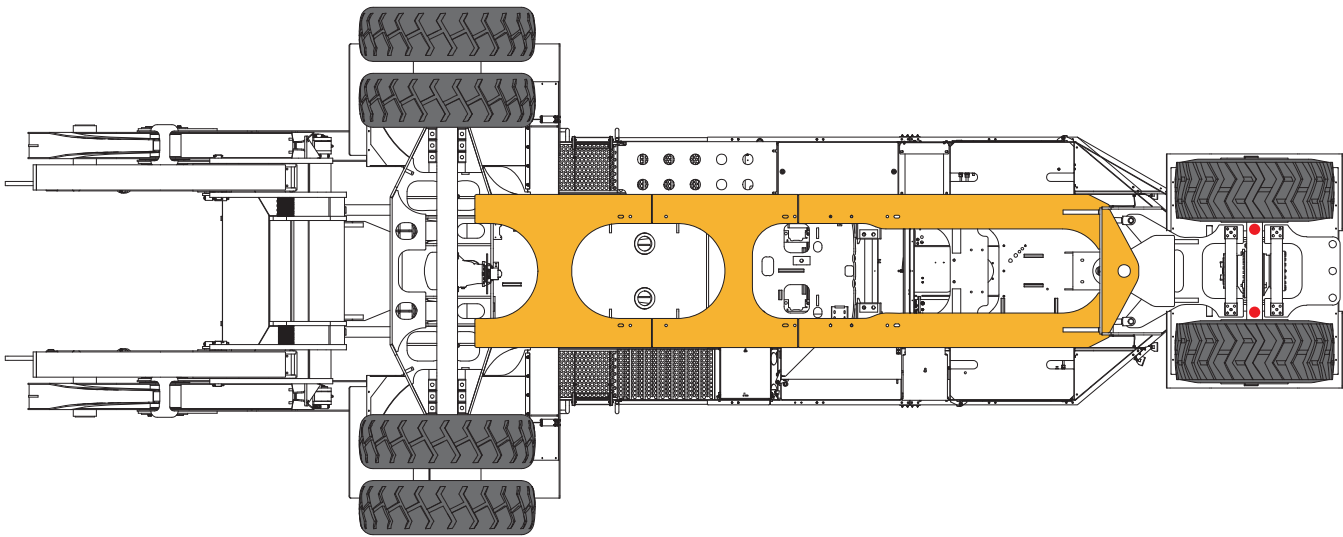

Figure 2 Jacking Locations, L4120
- See Figure 2. Jacks and jack stands may be placed anywhere on the bottom steel plates highlighted in yellow. Use pads (anti slip material) that are minimum 4" x 4" in size between jack and Logstacker to prevent damage.